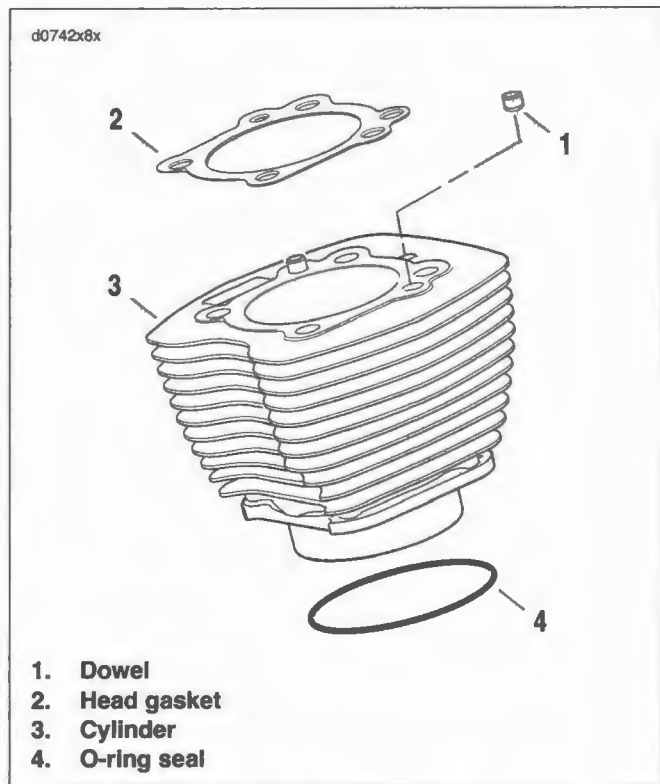

Figure 3-25. Cylinder Assembly
4. See Figure 3-25. Remove cylinder head and head gasket (2). Discard gasket.
4. See Figure 3-25. Remove O-ring seal (4) from the bottom of the cylinder liner. Discard O-ring seal.